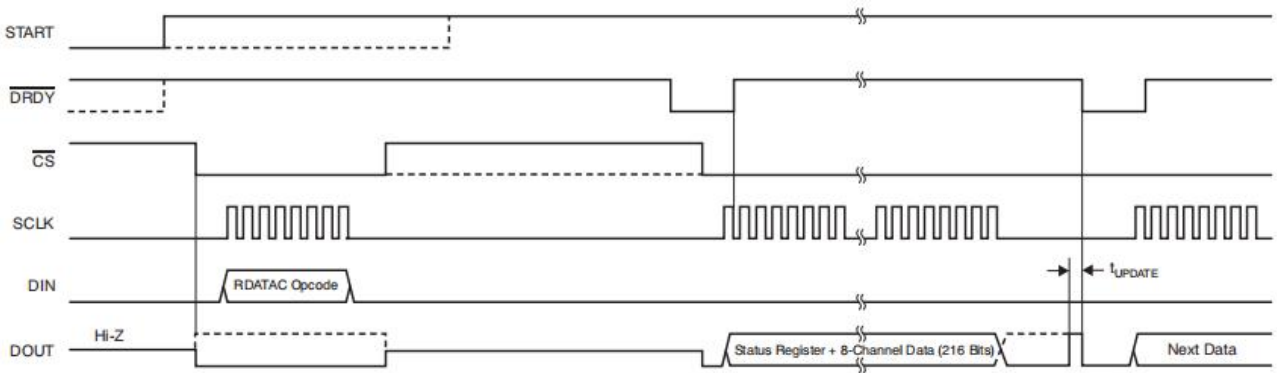

Figure 9.5.2 Usage of RDATAC command
(6) STOP: Stop Conversion
The STOP command halts the conversion. Pull the START pin low to control the conversion via the command. When the STOP command is issued, the ongoing conversion completes and further conversions are stopped. If the conversion has already been stopped, this command is invalid. This command has no SCLK rate limit and can be issued at any time. (7) RDATAAC: Continuous Read Data The RDATAAC command initiates the output of conversion data on each DRDY_ without the need for subsequent read data commands. This mode places the conversion data in the output register, where it can be directly shifted out. The continuous read data mode is the default mode for the chip, which defaults to this mode upon power-up. The RDATAAC mode is canceled by a stop read data continuously command. If the chip is in RDATAAC mode, a SDATAAC command must first be issued before any other commands can be sent to the chip. This command has no SCLK rate limit; however, subsequent data read SCLK or SDATAAC commands should wait for at least 4 tCLK cycles before completion (see the section on sending multi-byte commands). The timing for RDATAAC is shown in Figure 9.5.2, with a prohibited area of 4 tCLK cycles around the DRDY_ pulse where this command cannot be issued. To read data from the chip after issuing the RDATAAC command, ensure that the START pin is high or issue a START command.